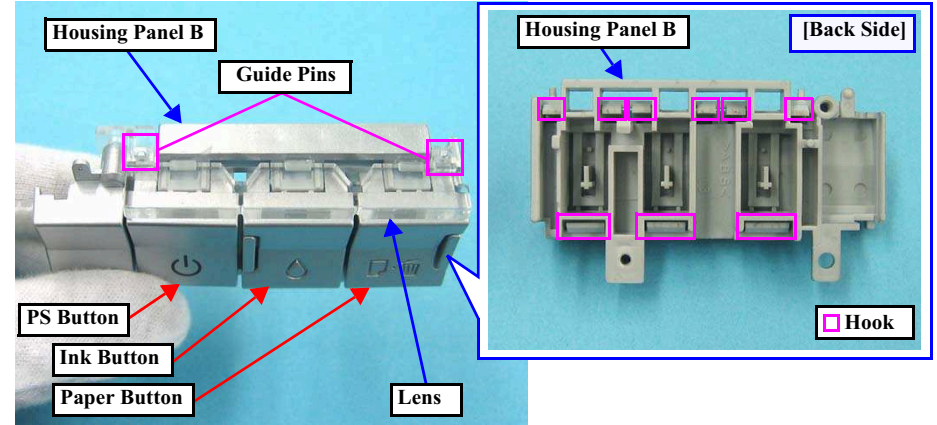

Figure 4-31. Removing the Panel Board / Buttons (4)
- Install the PS button, Ink button, and Paper button as shown in Fig.4-31.